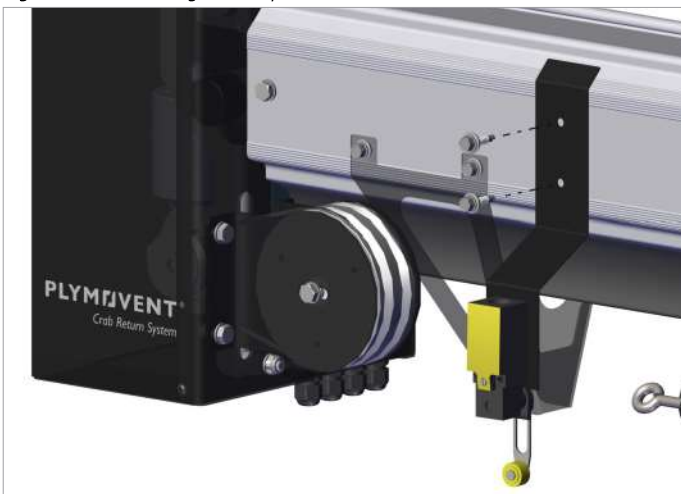

Fig. 4.3.8 Mounting the limit switch bracket
- Mount the limit switch bracket at approx. 1 in. (25 mm) next to the stop bracket using self-tapping screws $\frac{1}{4} \times 1$ in. (6.3 x 25 mm). Please note that the rubber bumper on the crab should almost hit the stop bracket when the limit switch is activated. Refer to fig. 4.3.8.